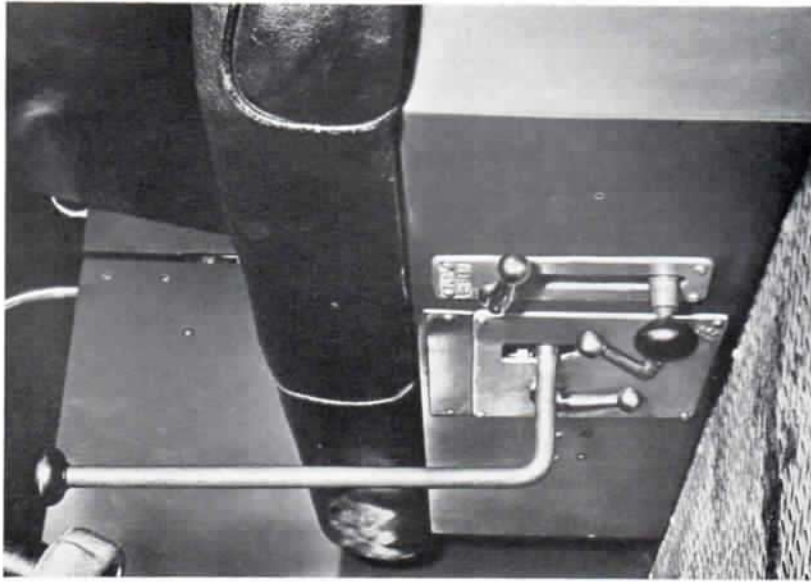

FIG. 5
B. Release the clutch, shift the road transmission to direct drive and engage the pump by moving the pump shift lever to the extreme "up" position. This operation also disengages the rear axle. Engage the clutch and lock the road transmission in direct drive by turning the locking lever to the left and up, to its full extent of travel. Lock the pump shift lever by turning down on the locking lever. See Fig. 5.
- B. Release the clutch, shift the road transmission to direct drive and engage the pump by moving the pump shift lever to the extreme "up" position. This operation also disengages the rear axle. Engage the clutch and lock the road transmission in direct drive by turning the locking lever to the left and up, to its full extent of travel. Lock the pump shift lever by turning down on the locking lever. See Fig. 5.